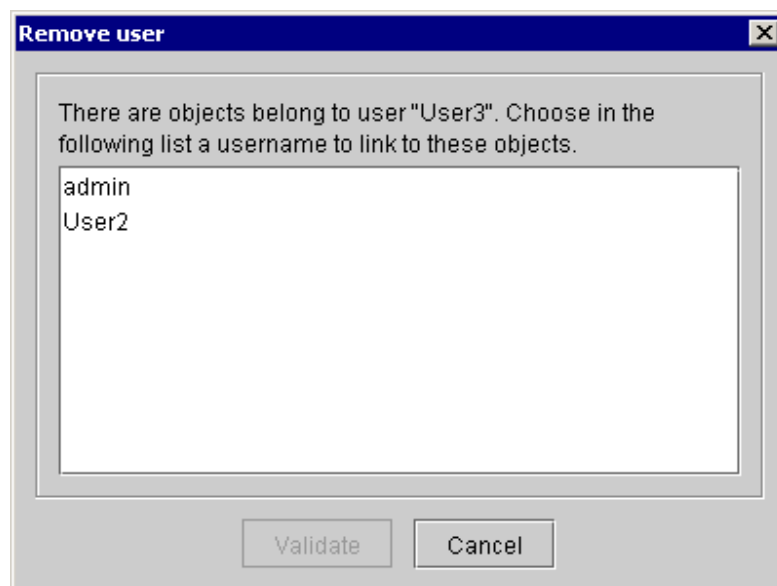

Figure 8 : New Owner
- ♦ If the removed user is the owner of a DAS Object (Models, Systems, etc ...), the administrator must specify the one who will be the owner of this object. During removal, a box (Figure 8) asks Administrator for the future owner.